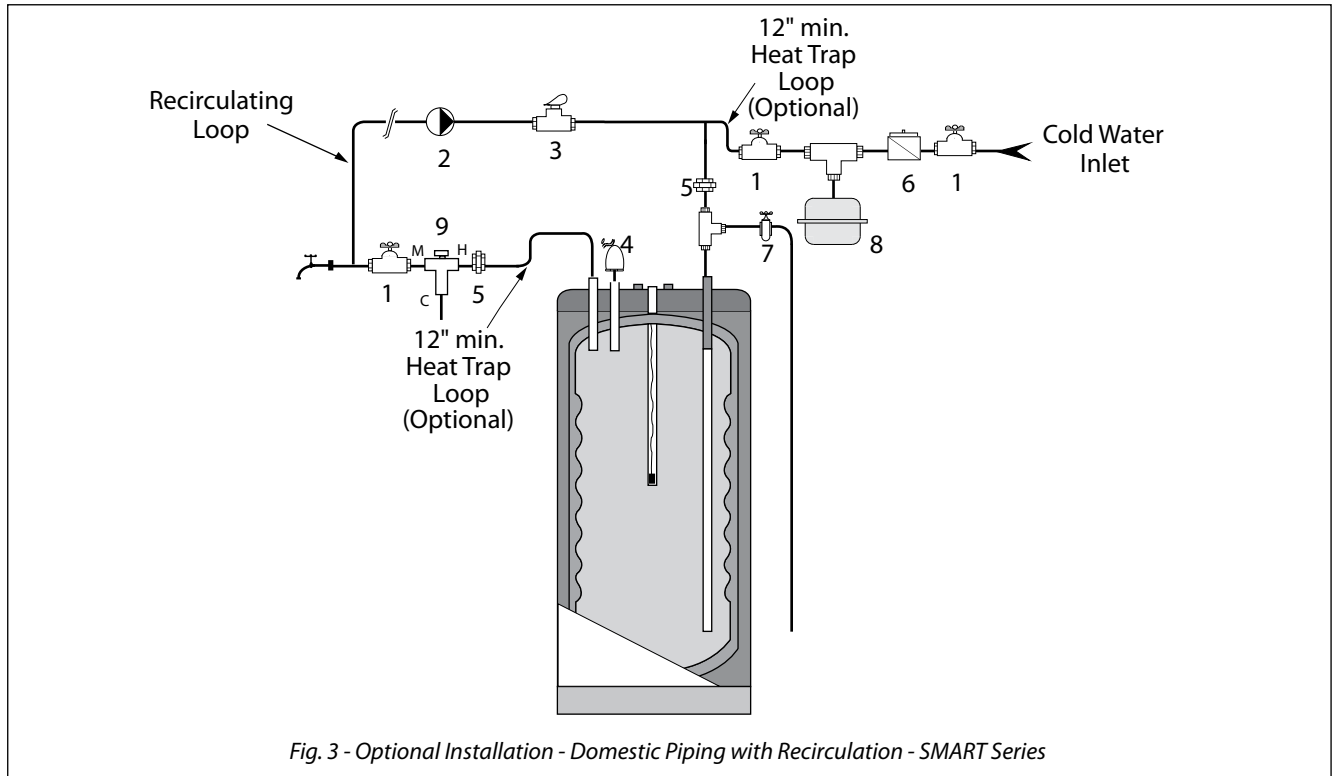

Fig. 3 - Optional Installation - Domestic Piping with Recirculation - SMART Series
- For domestic water piping diagram, refer to *Fig. 2 on page 8 thru Fig. 3 on page 9*.